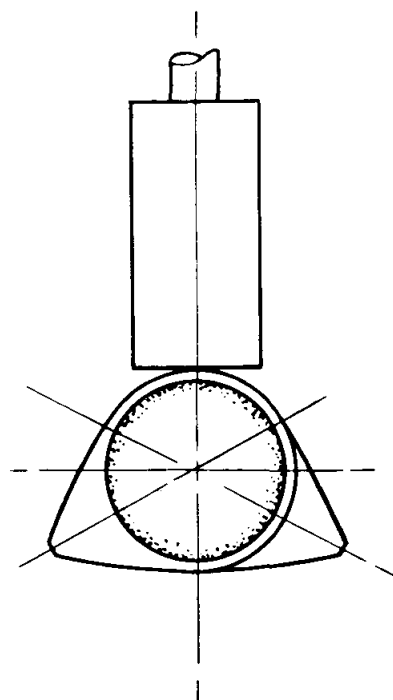

Fig. 23 Tappet on base or concentric position of cam.
- (c) Continue turning the engine for another complete revolution, this will ensure that the tappets of this cylinder are at the base of the cam (Fig. 23).